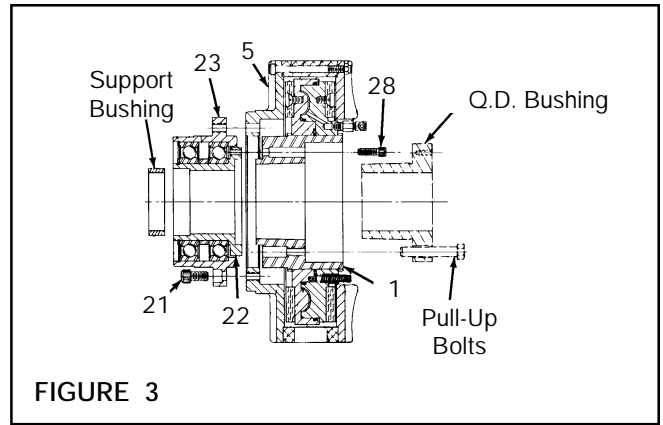

FIGURE 3
NOTE: The Pilot Clutch is a combination of the Element Clutch and a Pilot Assembly (See Fig. 3).
- a. Place Pilot Assembly face down, and fully support the flange of the Extension Hub (Item 22) (See Fig. 3).
2. Push the Pilot Assembly into the Element Clutch, and align the counterbored holes in the Pilot Housing (Item 23) with the tapped holes in the Flange Mount Disc (Item 5) (See Fig. 3).
3. Install the Cap Screws (Item 21), and tighten them to the recommended torque (See Table 4 & Fig. 3).
4. Align the counterbored holes of the Splined Hub (Item 1) with the tapped holes of the Hub Extension (Item 22) (See Fig. 3).
5. Install Cap Screw (Item 28), and tighten them to the recommended torque (See Table 4, & Fig. 3).